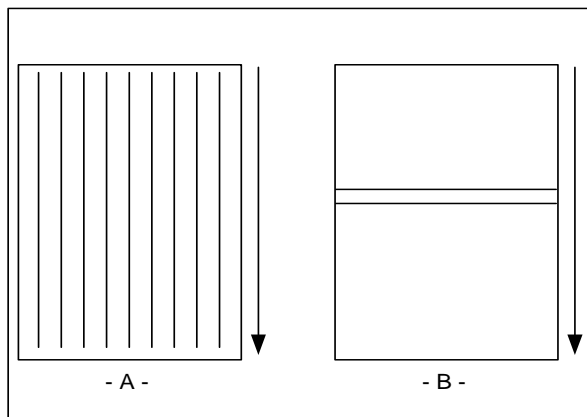

FIGURE 40
3. Straight waves in output (Fig. 40 A).